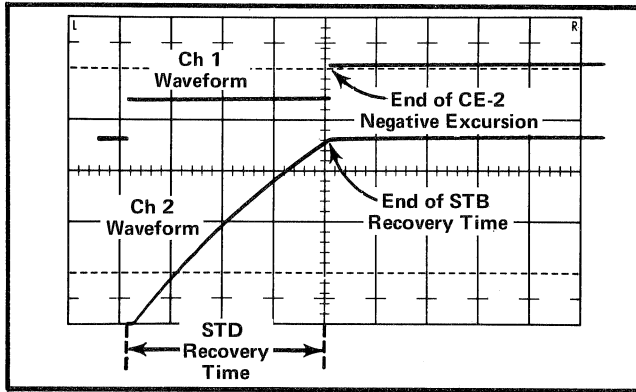

Fig. 5-12. Dual trace display of STB and CE-2 waveforms. Vertical deflection factor of Ch 1, 100 V/cm; Ch 2, 50 V/cm. Sweep rate is 0.1 sec/cm.
d. While repeatedly pushing the ERASE button, use the test oscilloscope Horizontal Position control to position the Channel 1 waveform to the location shown in Fig. 5-12.
e. CHECK—The end of the Channel 2 STB recovery time should coincide with the end of the Channel 1 CE-2 negative-going excursion as shown in Fig. 5-12.